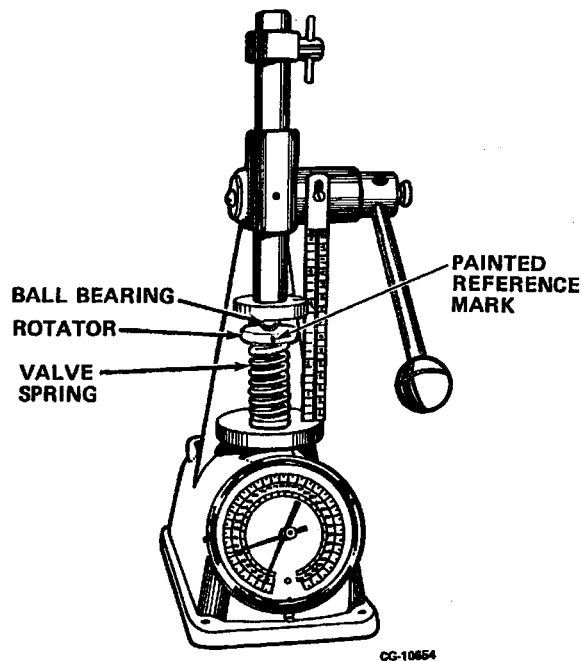

Figure 4.55. Test Valve Rotator
4. Compress the valve spring rapidly and with even pressure and observe the rotator as it turns. (Refer to Figure 4.55.)